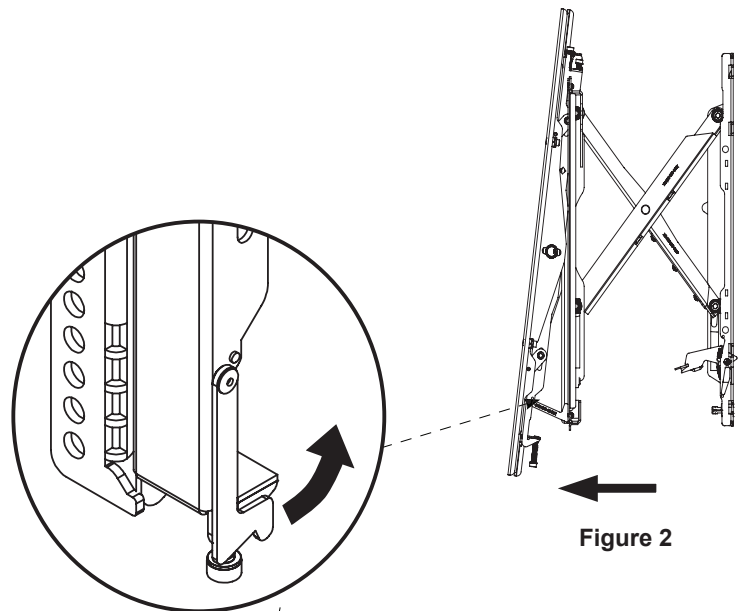

Figure 2
- 2) Slowly pull the front of the PFW6885 to extend the scissor arms (Figure 2).
- 4) Tilt up the bottom of the flat-panel, then set their kickstands against the bottom tubing of the mount (Figures 2 & 3).